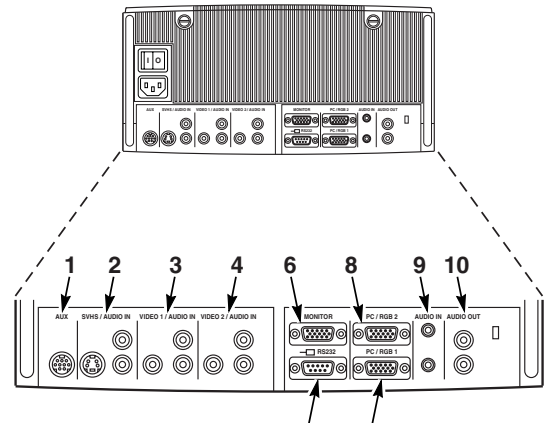

Figure 3-1. Input Connection Terminals
2. Connect cables being careful not to bend any pins in the cable plug or input terminal (Figure 3-1).